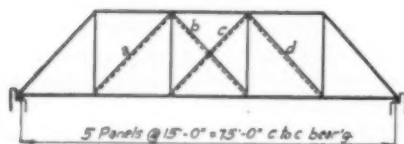

Fig. 2. Sequence of erection (see text)
represented by Frank Limbaugh of Albuquerque, in erecting these spans and did so with minimum equipment by following the sequence sketched in Fig. 2. (1) After first completing concrete abutments, falsework bents were placed under each panel point and intermediate floor beams set in place. (2) Rails were laid in position and the splices welded. (3) Inner diagonals a and b were erected along with bottom connections, making an "A" frame, then c and d members, and these members braced laterally. (4) Top chord timbers were placed full length, then end posts and hangers. For the 10x10-in. top chords, the contractor used single timber 47 ft. long in preference to splicing two pieces.